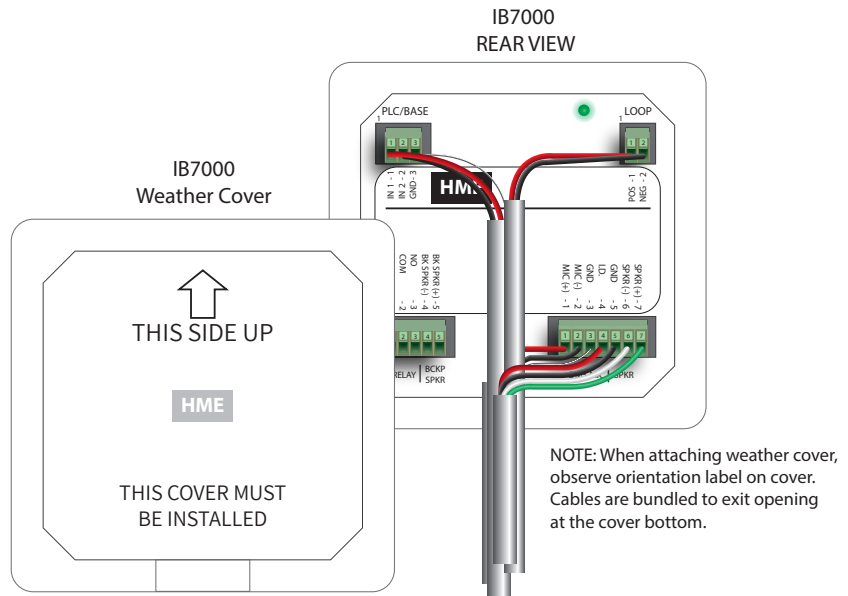

Fig. 7.2
**Note:** The cover must be oriented and installed the correct way to be effective (see Fig. 7.2).
1. Orient the weather cover correctly before installing (see the up arrow on the cover rear, Fig. 7.2 & 3).